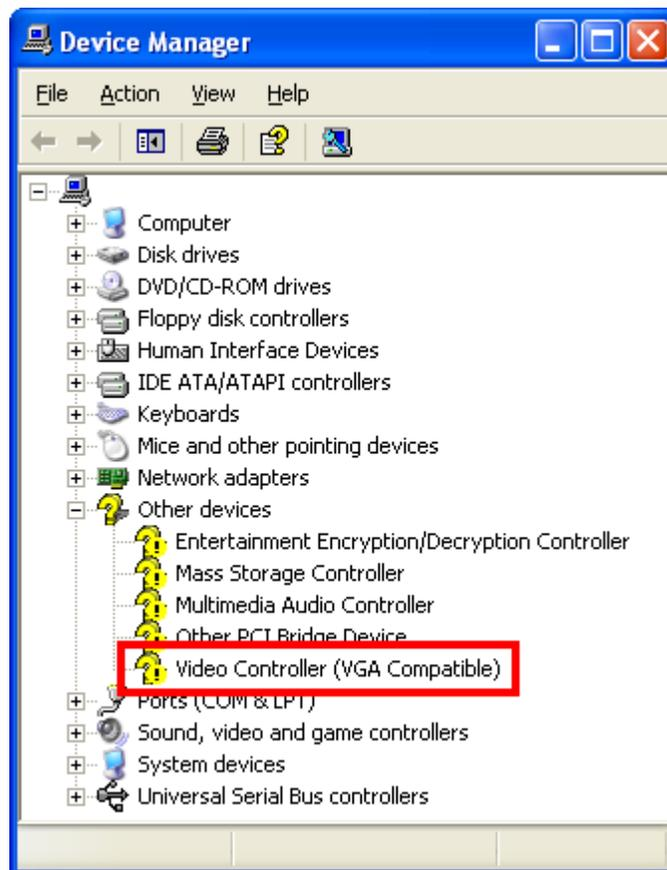

Figure 6-4: Device Manager List
Step 4: A list of system hardware devices appears (Figure 6-4).